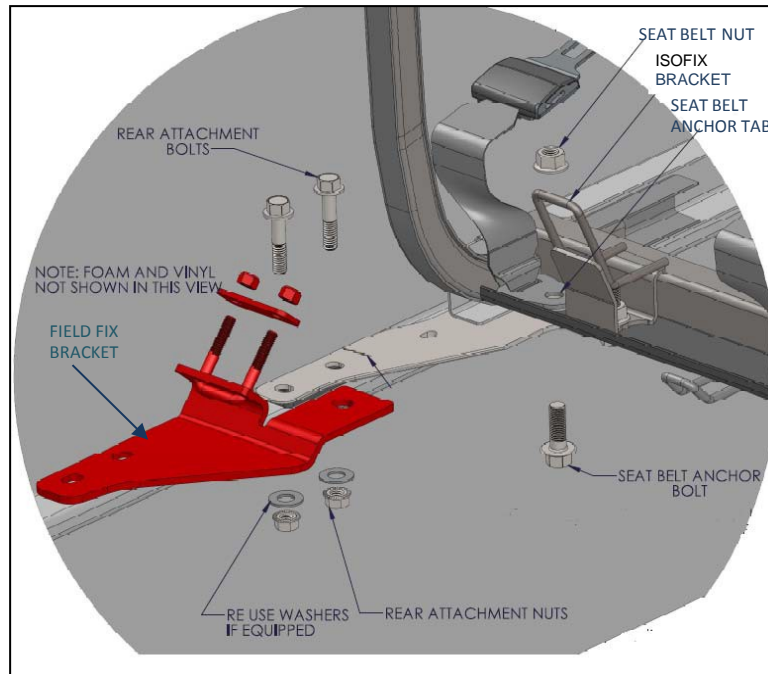

Figure 10: Bracket Installation – 45 Inch Seats
13. Place the new bracket over the top of the original bracket (TBB 220626). See **Figure 10**.